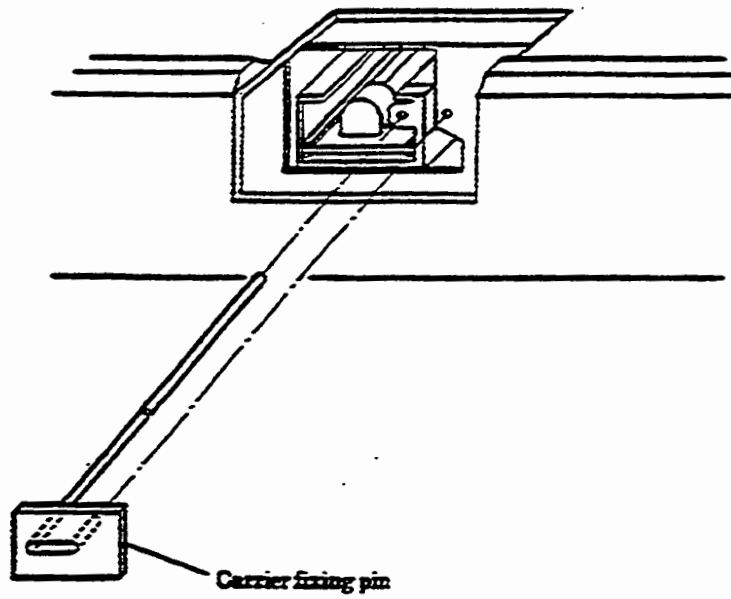
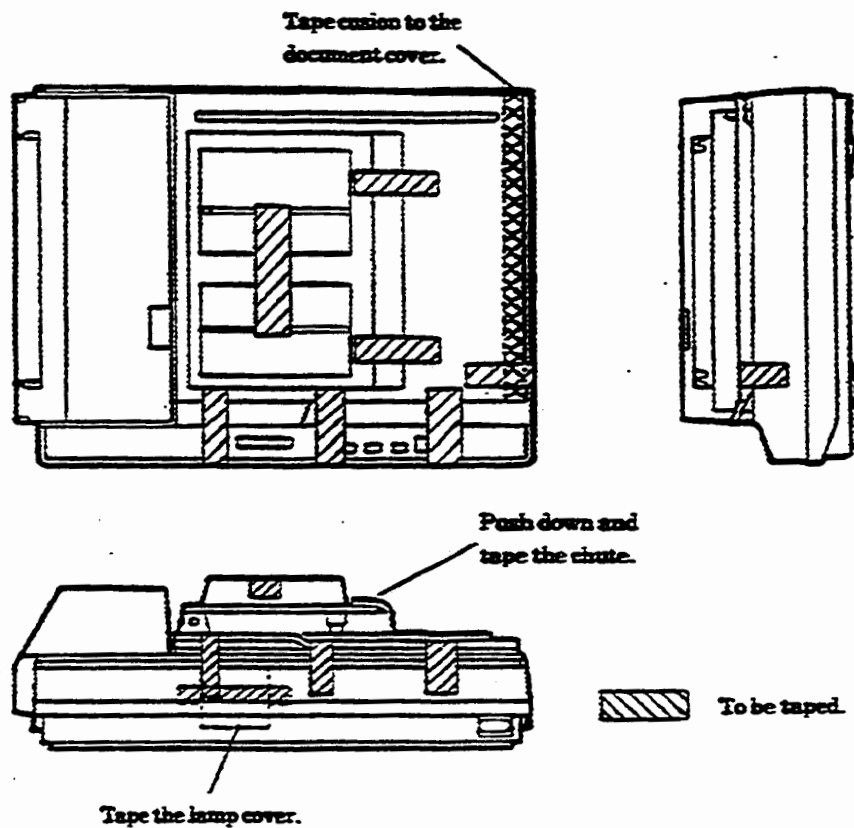

Figure 2.9 Carrier fixing pin installation
Figure 2.10 Repackaging (1)
- ① Turn on the power with pressing 'Select' and 'Mode' switches.
- ② The carrier will go to the center of flat-bed.
- ③ Turn off the power when the LCD panel indicates 'Power Off'.
- ④ Remove the document cover and the lamp cover.
- ⑤ Disconnect the power cable.
- ⑥ Insert the carrier fixing pin to the hole of the carrier (see Figure 2.9).
- ⑦ Put the lamp cover and the document cover.
- ⑧ Push down the chute and remove the stacker and extensions.
- ⑨ Set poly-urethane foam on the upper cover and close the document cover (see Figure 2.10).
- ⑩ Tight the covers with adhesive tape (see Figure 2.10).
- ⑪ Put the scanner into the vinyl bag.
- ⑫ Put the scanner into the lower carton.
- ⑬ Put the accessories into the lower carton.
- ⑭ Put the upper retainers on the scanner, and close the box with upper carton.
- ⑮ Put the joints to the box.